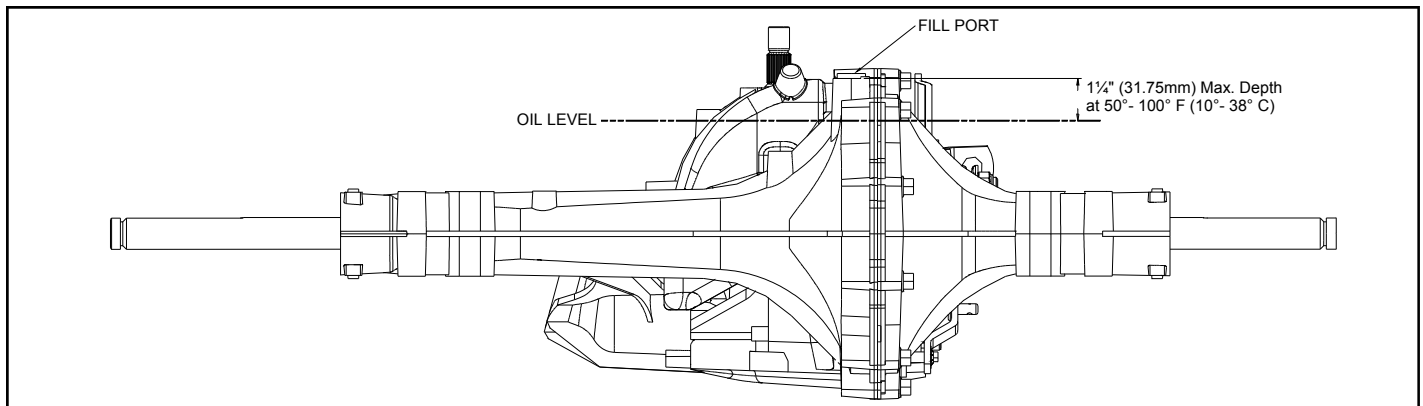

Figure 4. 310-0510 Fluid Level and Fill Port
2. Check oil level in accordance with Figure 4 Page 10.
Certain situations may require additional fluid to be added or even replaced. Refer to Page 4 and Figure 4 for the proper fill port location.
9. Fill the transaxle at the oil fill port according to Figure 4.
Before starting, make sure the transaxle/transmission is at the proper oil level. If it is not, fill to the specifications outlined on page 10, Figure 4.